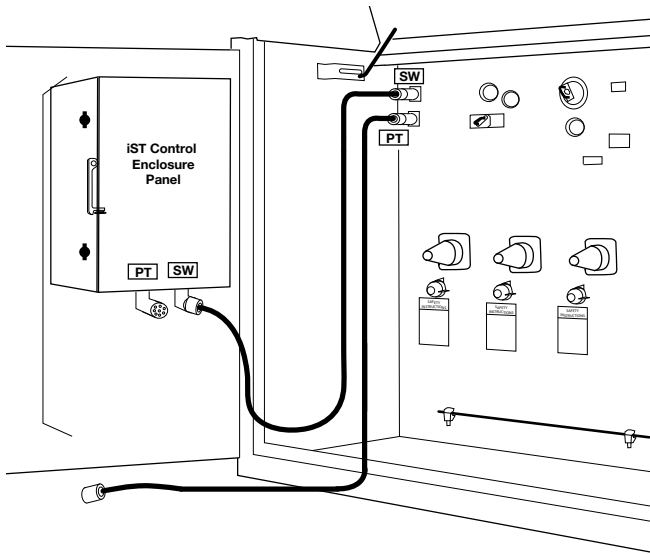

Figure 23. Disconnection of potential transformer cable at PT receptacle of iST control enclosure panel
1. At the PT receptacle of the iST control, disconnect the cable connecting to the corresponding PT receptacle located on the source-side front plate of the tank (**Figure 23**).